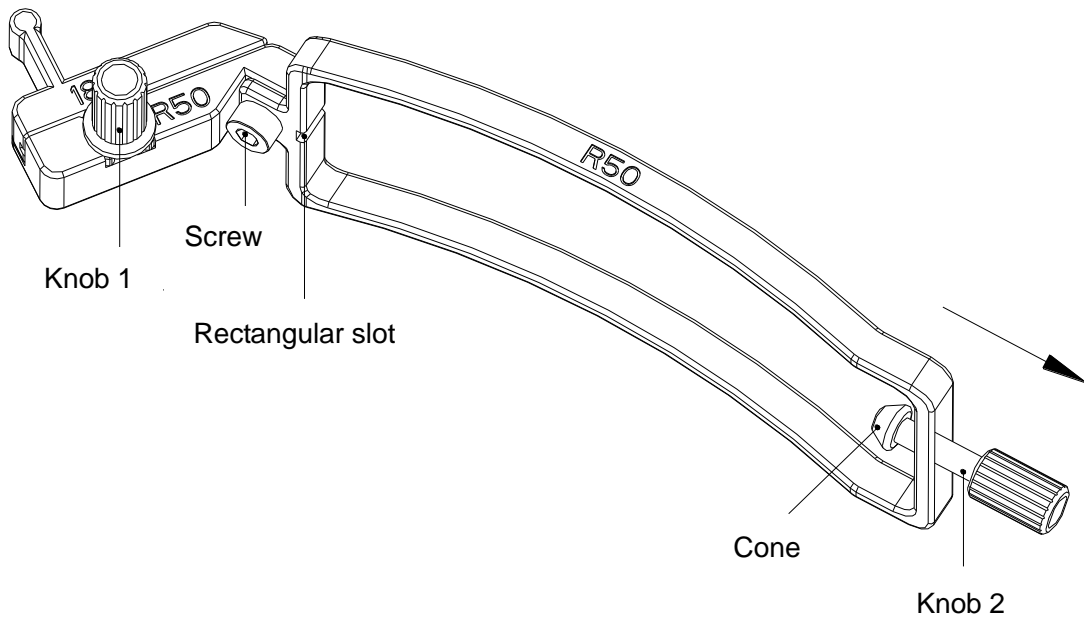

Figure 6-28 Structure of Needle Guide Bracket Kit
Step 1: Take needle guide bracket kit out from the package and check it carefully for any damage. Identity the appropriate needle guide bracket kit (for the unique matching needle guide bracket kit of each probe, see Table 3-1 Needle Guide Bracket Kits of the user manual). The structure of needle guide bracket kit is shown in Figure 6-28.
Step 2: Check if the screw and knob 1 come loose. If so, fasten the screw with an inner hexagon spanner, and fix the knob 1 with fingers; turn the knob 2 counterclockwise until it stops (with normal force), as the arrow direction shown in Figure 6-28.